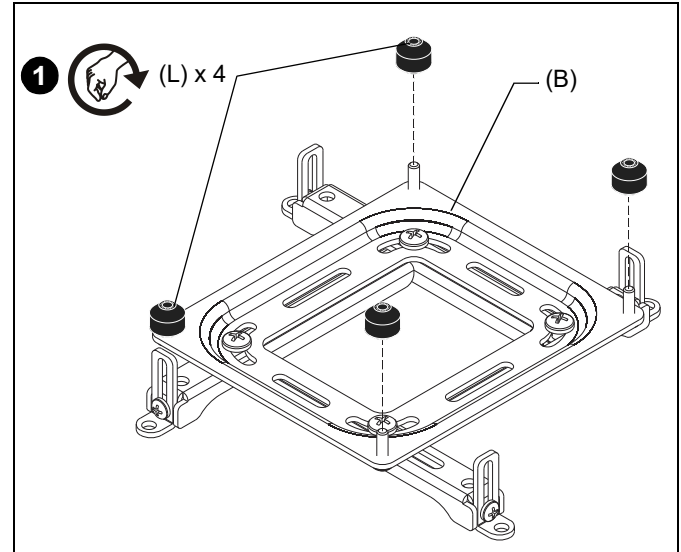

Figure 7
1. Install four thumb nuts (L) onto screw at each corner of interface bracket (B). Do not tighten completely. (See Figure 7)